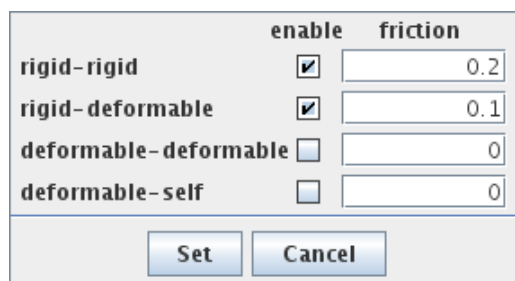

Figure 67: Dialog for setting default collision behavior in a MechModel.
- For default behaviors, the enabled and friction properties can be edited by selecting the `MechModel` and then choosing “Set default collisions ...” from the context menu. This will open the dialog shown in Figure 67, allowing the enabled and friction properties to be adjusted. For the example shown, collisions are enabled between all rigid bodies, with a friction coefficient of 0.2, and between all rigid and deformable bodies, with a coefficient of 0.1. Other collisions are disabled.